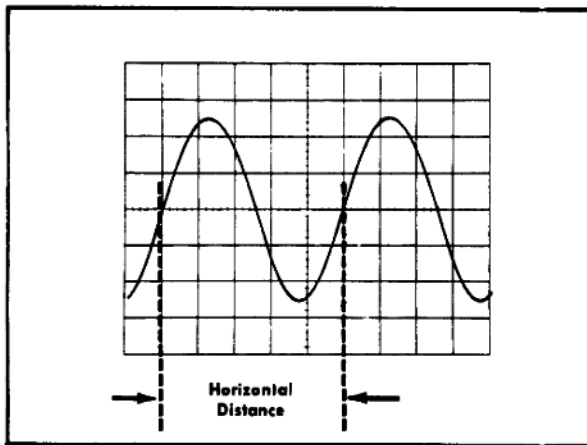

Fig. 2-12. Measuring time duration between points on a waveform.
5. Set the TIME/DIV switch to the fastest sweep rate that displays less than eight divisions between the time measurement points (see Fig. 2-12). See Selecting Sweep Rate in this section concerning nonlinearity of first and last division of display.
Example. As an example of this method of measurement, assume that the distance between the time measurement points is five divisions (see Fig. 2-12) and the TIME/DIV switch is set to .1 mSEC with the magnifier off.
Example. As an example of this method of measurement, the frequency of the signal shown in Fig. 2-12 having a time duration of 0.5 millisecond is: